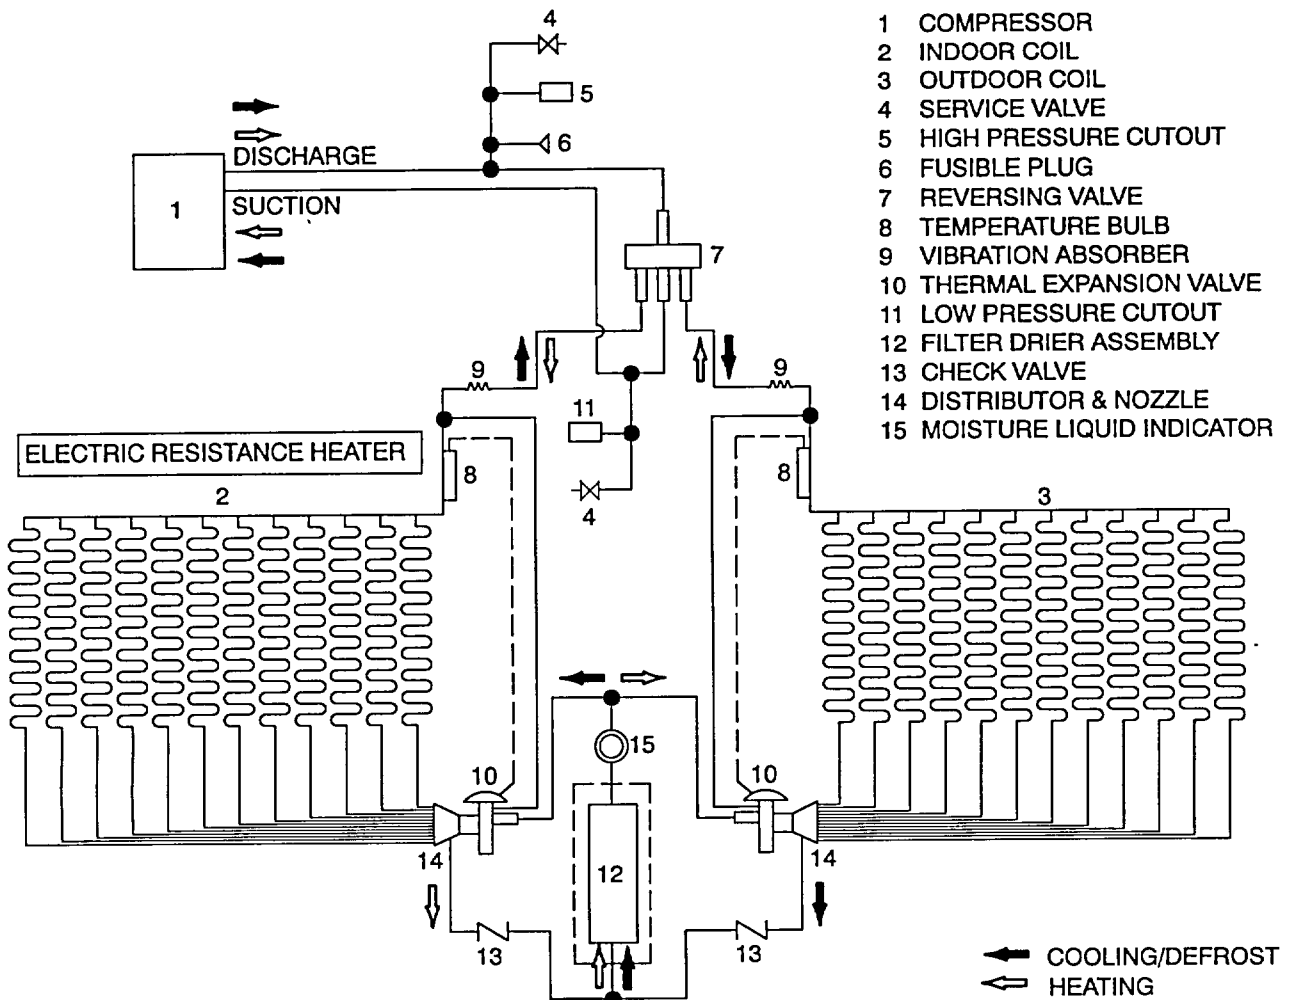

Figure 1-6. Cooling, Dehumidifying, and Heating System Schematic
1.17 COOLING AND DEHUMIDIFYING. See figure 1-6.
1.18 HEATING. See figure 1-6.